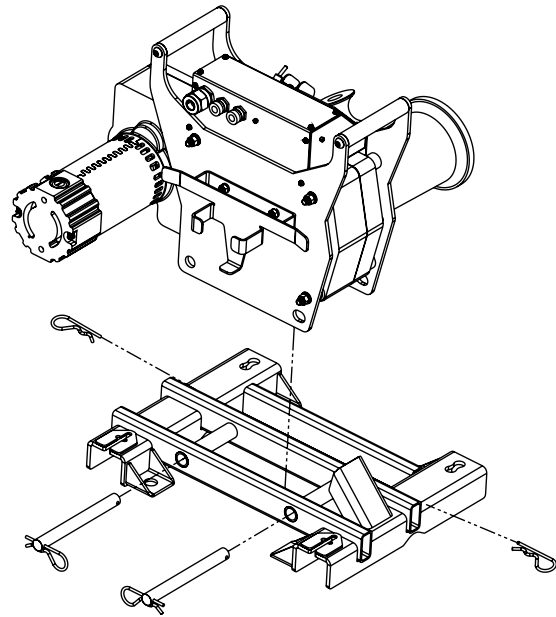

Figure 22b
9. Install model #1450 puller onto the floor mount by lowering the puller over the floor mount and inserting the puller mount pins (see Figure 22b). Secure the puller mount pins with spring clips. NOTE: The puller **MUST** be mounted onto the floor mount with the capstan on the same side as the mounting chain handle holes (see Figure 21).